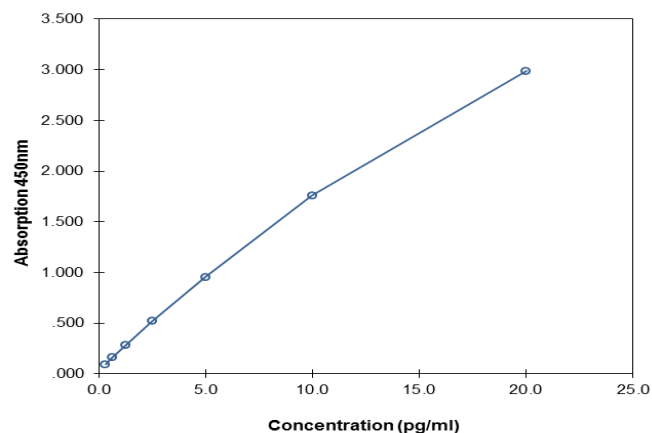

Fig. 8 Representative standard curve for human CCL7 (MCP-3) ELISA. Human CCL7 (MCP-3) was diluted in serial 2-fold steps in Sample Diluent.
- A representative standard curve is shown in Figure 8. This curve cannot be used to derive test results.